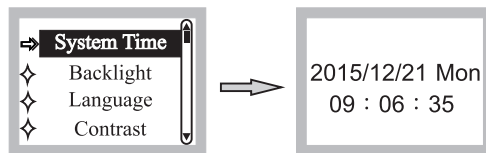

Fig. 19
- (3) Changing Date & Time: Press PLAY/PAUSE ⏸ to enter the System Time setting mode, press PRV/TEN ◀◀ or NEXT/TEN ▶▶ to change. Press PLAY/PAUSE to confirm, Fig. 19.